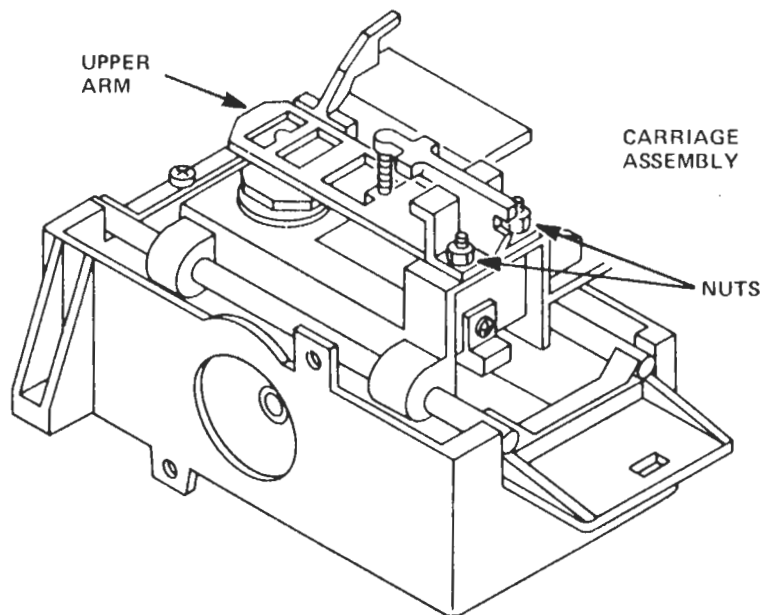

Figure 2-10
- 2.4.2.1 Turn the two (2) nuts that attach the upper arm to the carriage assembly (see Figure 2-10) counter-clockwise one-quarter ( $1/4$ ) turn with a  $3/16$ " nut driver.